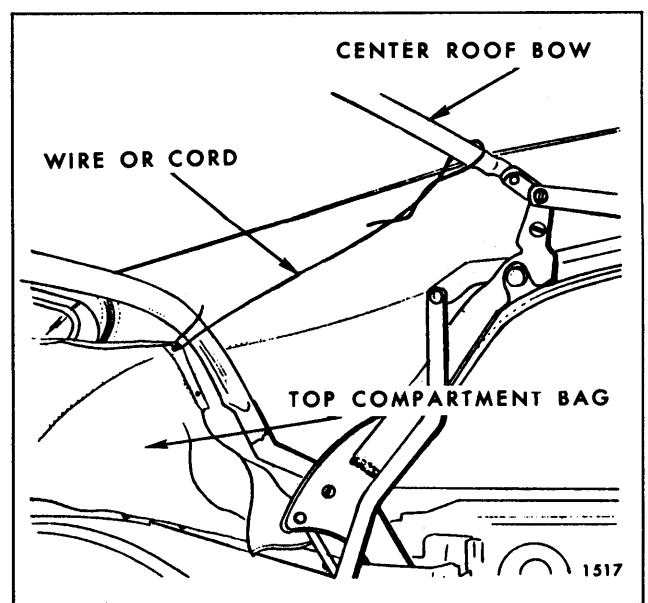

Fig. 13-4—Top Compartment Bag Tied to Center Bow
16. Detach folding top compartment bag from rear seat back panel, thus exposing rear quarter and rear trim stick attaching bolts. Forward end of top compartment bag may be tied or wired to center roof bow to provide ready access to attaching bolts (Fig. 13-4).